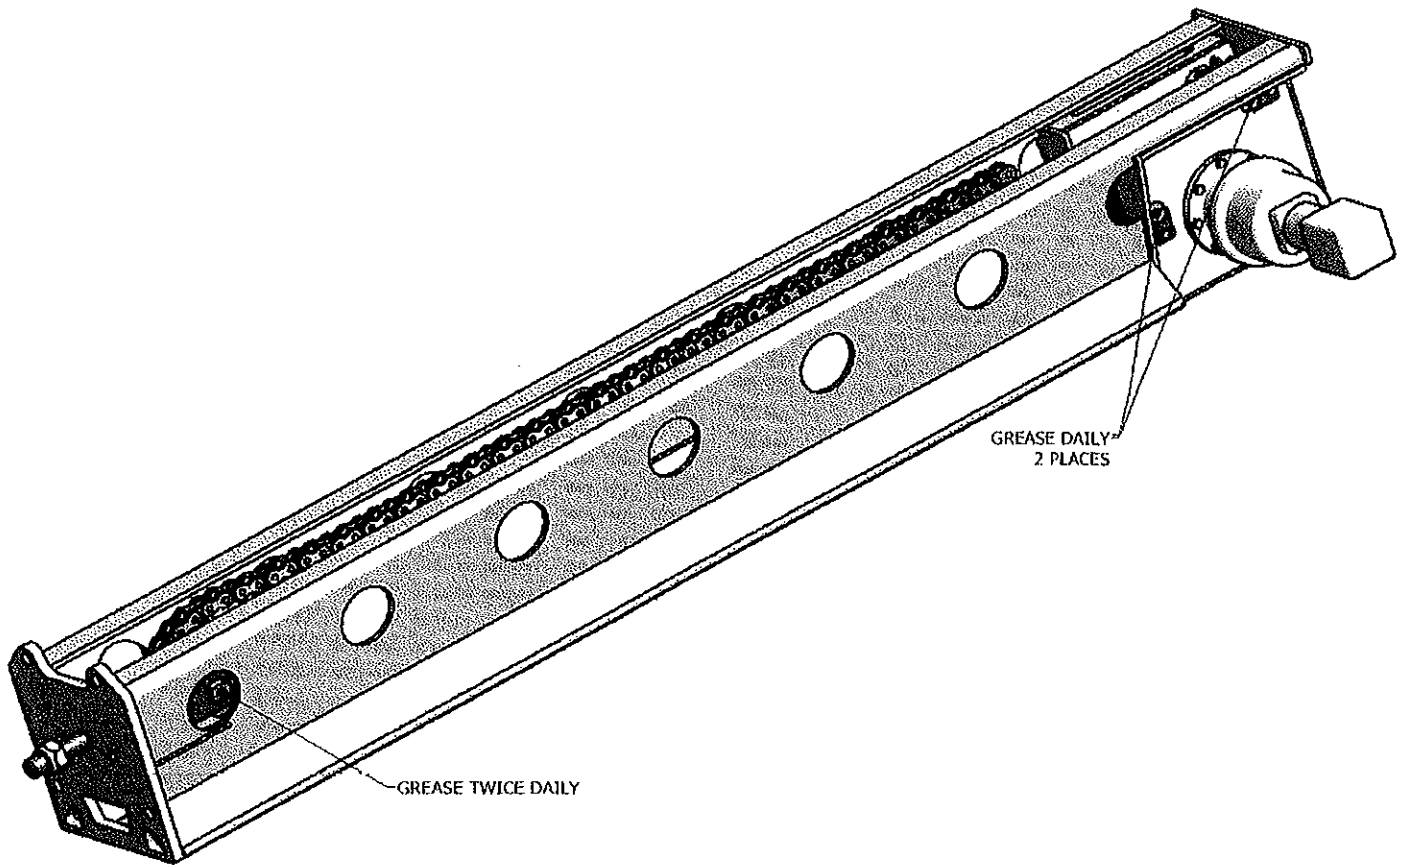

Figure 3.1
Clean and inspect feed removing debris. Check chain drive for tension by moving the drill to the center of the feed. The chain should pull to 0.5" (13mm) above the top rail. Tighten as needed using the chain tightening bolt shown in Figure 3.2. Check the dust shields at centralizer. Keeping the internal feed beam clean extends slide and chain life. Use a rubber shield to deflect drilling chips and debris from the feed mast and cylinders. Grease all sprockets daily, Grease the bottom sprocket twice (2) daily. (Shown below in figure 3.1)